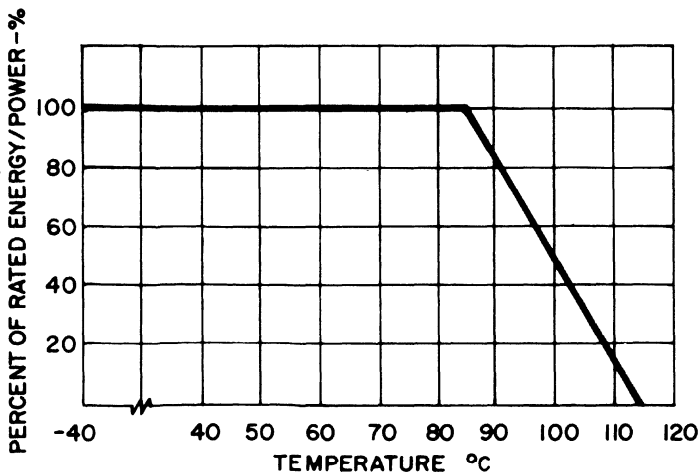

FIGURE 2. POWER AND ENERGY RATING VS TEMPERATURE
- (1) Sinusoidal voltage assumed as normal input conditions. If nonsinusoidal wave input is present, peak voltage input values should be used to select model.
- (2) See Figure 2.
- (3) 1 mA standby current based upon 60 HZ sinusoidal input.
- (4) Not recommended due to high power dissipation.